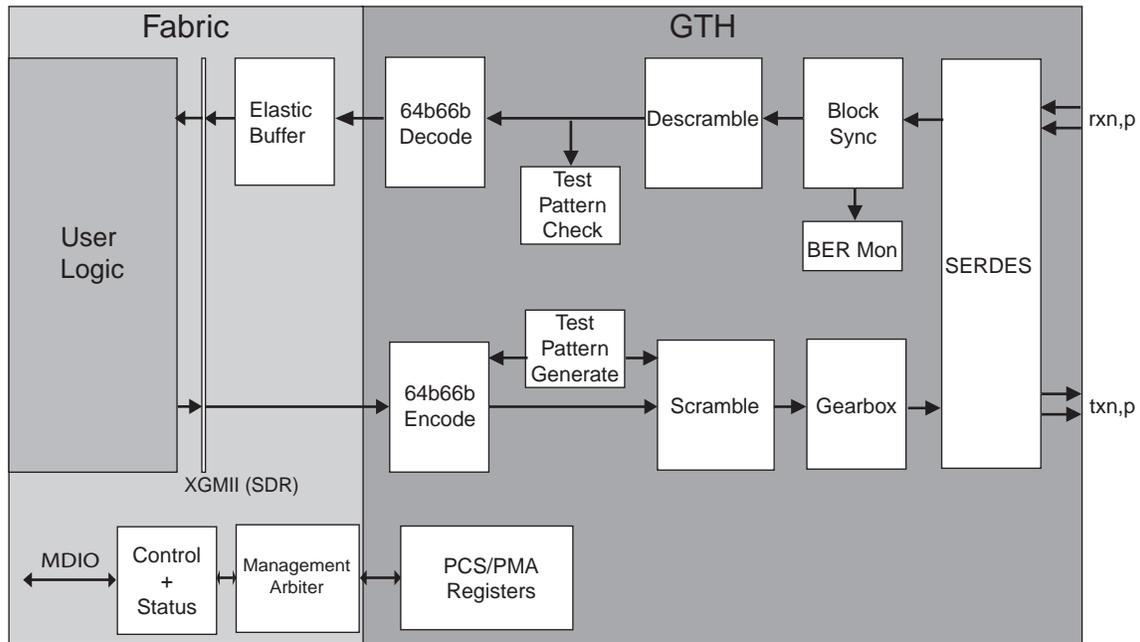

Figure 3-2: Virtex-6 Implementation of the 10-Gigabit Ethernet PCS/PMA (BASE-R) Core
- **PCS Block.** Provides encode/decode, scramble/descramble, block-lock, transmit and receive state machines, test-pattern blocks and BER monitor, in the same configuration as in Figure 3-2.
Figure 3-2 shows a block diagram of the implementation of the Virtex-6 FPGA 10GBASE-R core. The major functional blocks of the core include the following: